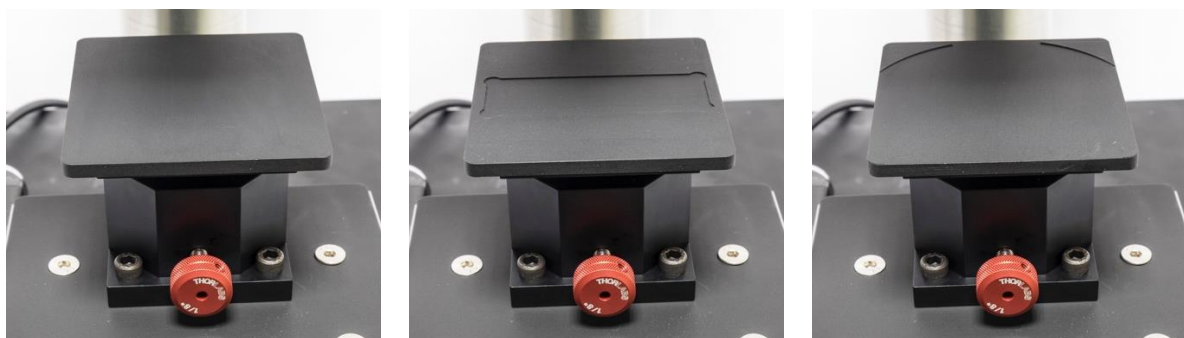

Figure 7 – From left to right: flat holder, microscope glass slide holder and 4" wafer holder
This module is provided with an interchangeable flat holder (Figure 7 left). Two other substrate specific holders can be alternatively used (separate order):
- For standard microscope glass slides (25 mm x 75 mm) > Figure 7 middle
- For 4 inches (100 mm) circular wafers with notch or slab > Figure 7 right
The wafer holder must always be placed as shown in Figure 7 right with the wide curved part toward the head's column. If the holder is not correctly positioned, there is a risk of contact between the wafer and the column that may cause damages to the substrate or to the motorized XY stage if equipped.